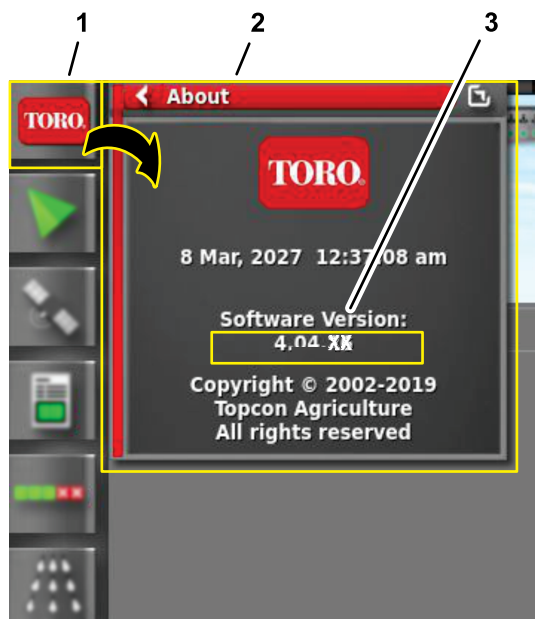

Figure 235
2. Press the ABOUT (Toro) icon at the upper left corner of the control console (Figure 235).